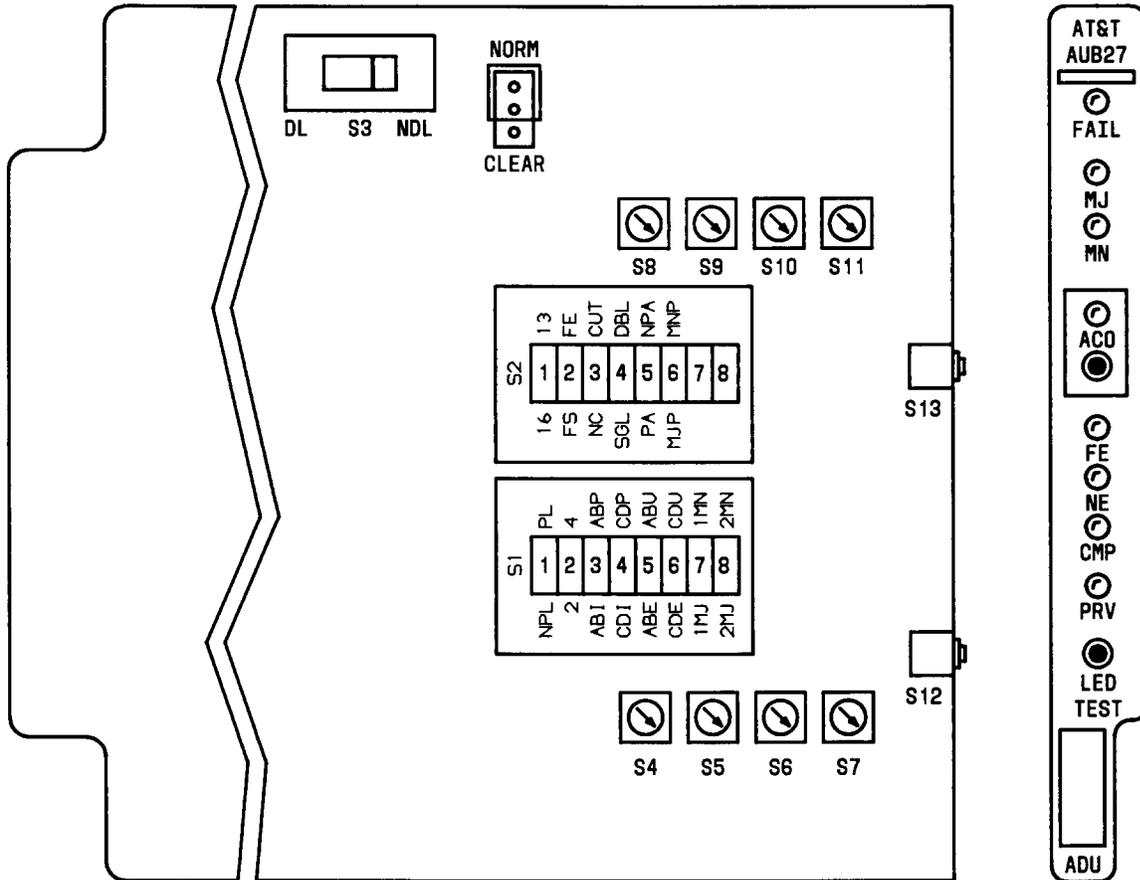

Fig. 1—AUB27 RT ADU Option Switch Settings
On ADU (AUB27) option switch S1 (Figure 1), use an orange stick (KS-6320, L1) or equivalent to depress switch position 5 toward ABE and switch position 6 toward CDE and proceed to Step 5.
On ADU option switch S1 (Figure 1), use an orange stick (KS-6320,L1) or equivalent to set appropriate switch position (either 5 to ABE for AB digroups or 6 to CDE for CD digroups) to place shelf group being equipped in equipped state and proceed to Step 5.
5. On ADU option switch S2 (Figure 1), use an orange stick (KS-6320,L1) or equivalent to set switch position 2 to FS or FE according to the digital framing format to be used.
6. On ADU option switch S2 (Figure 1), use an orange stick (KS-6320,L1) or equivalent to set switch position 4 to DBL (Double) if both even and odd channels of dual channel units are used or SGL (Single) if only the odd channels of dual channel units are used.
7. On ADU option switch S2 (Figure 1), use an orange stick (KS-6320,L1) or equivalent to set switch position 5 to NPA for power-minor backplane alarm only or PA for an integrated power alarm ("Integrated" meaning that the power minor alarm is transferred into either the major or minor alarm closure).
9. On ADU option switch S2 (Figure 1), use an orange stick (KS-6320,L1) or equivalent to set switch position 6 to MJP if the power alarm will activate a major alarm closure or MNP if the power alarm will activate a minor alarm closure.
- On ADU option switch **S1** (Figure 1), use an orange stick (KS-6320,L1) or equivalent to set switch position **2** to **4** for Mode I INA-RT operation or to **2** for Mode III INA-RT operation.